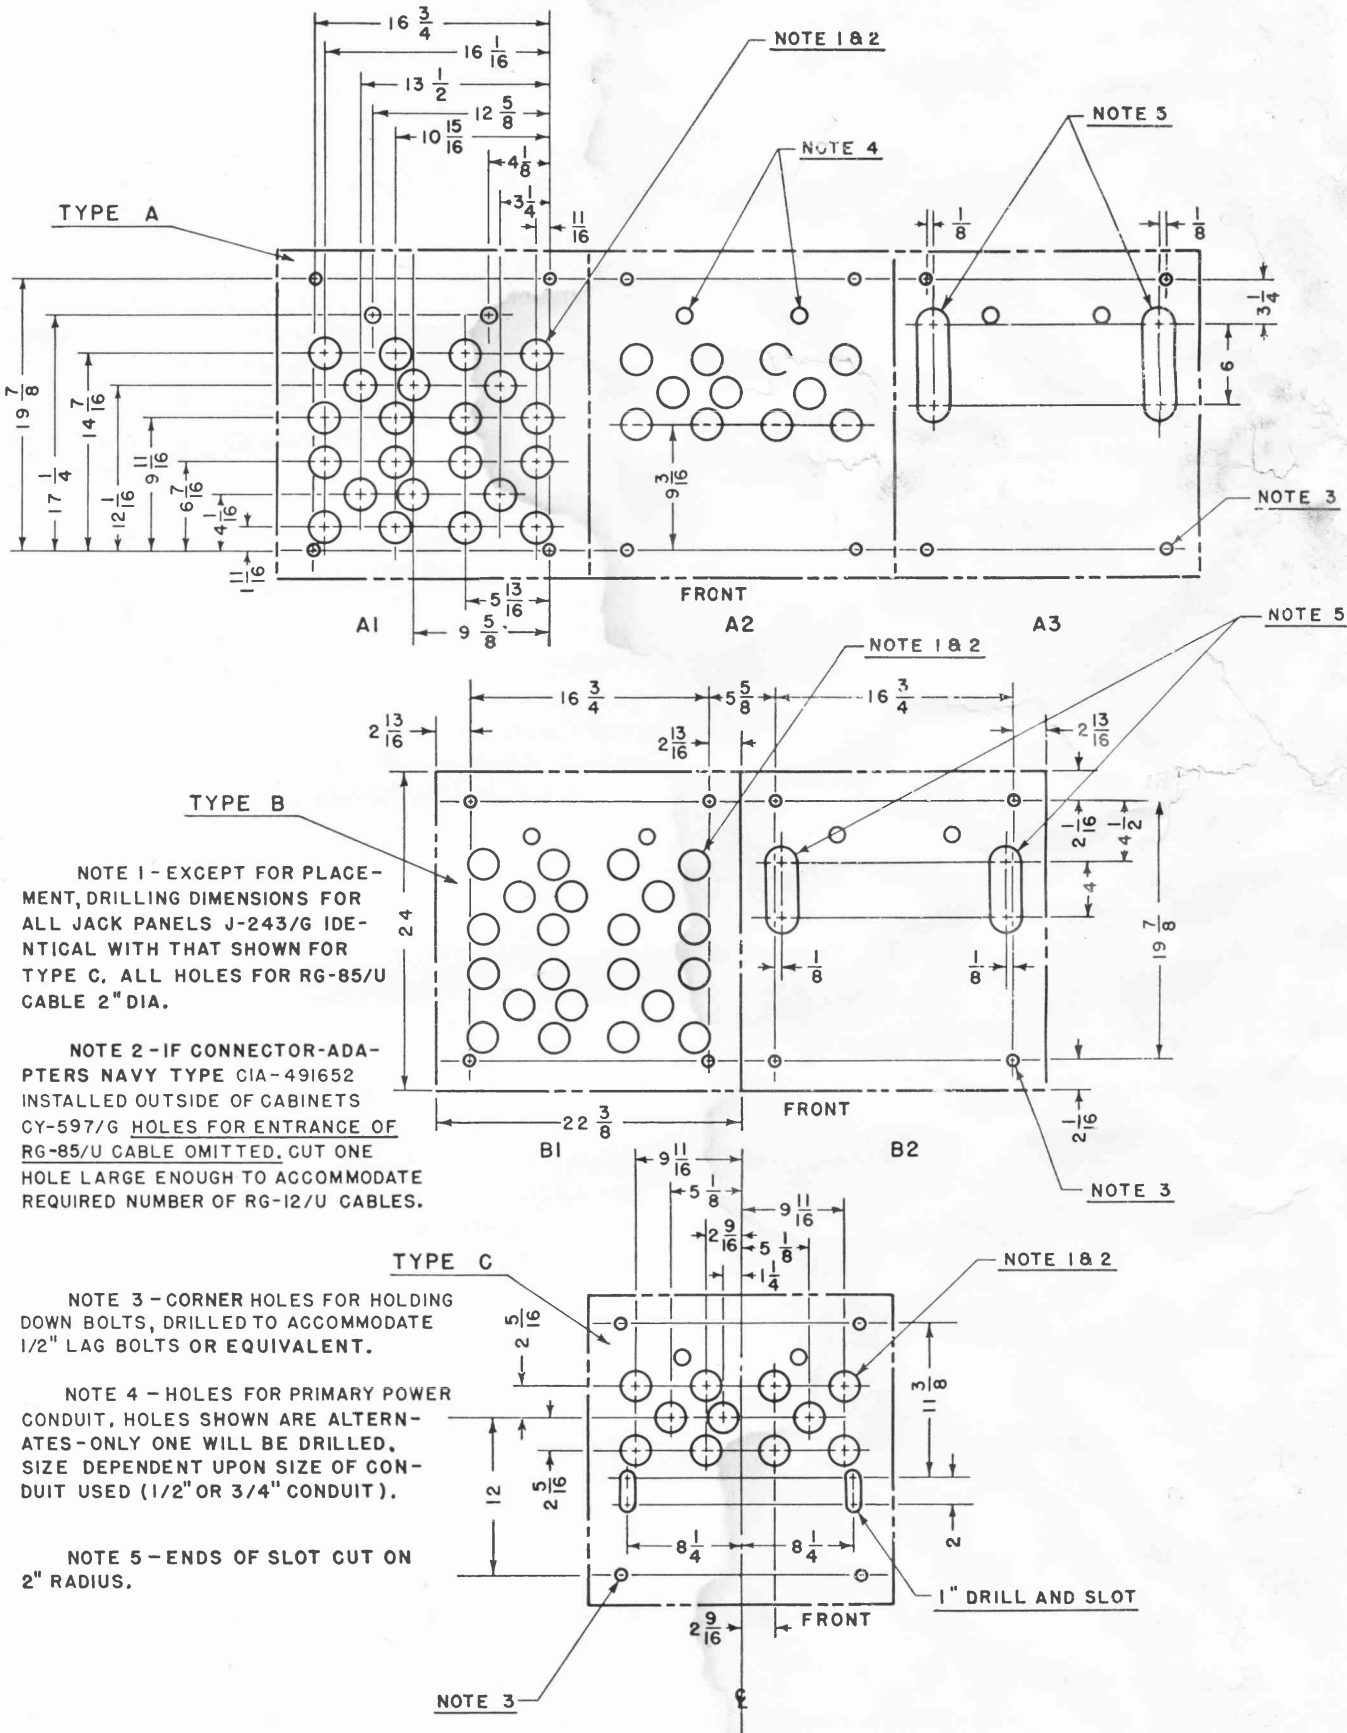

Figure 2-2. Drilling and Cutting Plan for Preparation of Mounting Surface for Signal Distribution Unit
A drilling template should be made from the plan shown in figure 2-2, and the holes drilled before the cabinets are set in place. It will be necessary to stuff around the cables after they are installed to prevent
measure from entering the cabinets, so the holes should be kept down to the sizes indicated in figure 2-2.
The mounting surface must be prepared as shown in figure 2-2 and the RG-85/U cables pulled through so that they protrude about three feet above the surface of the floor. THIS METHOD IS NOT RECOMMENDED WHERE A LARGE NUMBER OF CABLES ARE TO BE EMPLOYED.
(1) ANTENNA LEAD-INS.—If the RG-85/U antenna lead-ins are brought into the cabinets, the conduit to the convenience outlet must fit between the cables. As shown in figure 2-2, the center cable is offset to allow this. The cable must then be bent so that it will fit into the proper hole on Jack Panel AN Type J-243/G. Now fit J-243/G over the Connector-Adapters and secure the Connector-Adapters in the panel with the mounting nuts.
(3) EXTERNAL AF WIRING.—As explained above, two receiver output cables go into each Control AN Type C-443/G, while only one cable (TTRS-4) goes out. Thus there are approximately half as many receiver output cables which go into the AF cabinet as there are receivers. An undetermined number of AF cables go to the loads, the number being dependent upon the number of speakers, recorders, teletypes, etc. which are in the station allowance. The receiver output cables come in on the left hand side of the AF cabinet of the Signal Distribution Unit and the load cables go out the right hand side looking from the rear. Cut-outs for these cables are shown in figure 2-2. Remember that the AF cables are run in the AF cableways of the "Q" flooring or equivalent cable ducts.